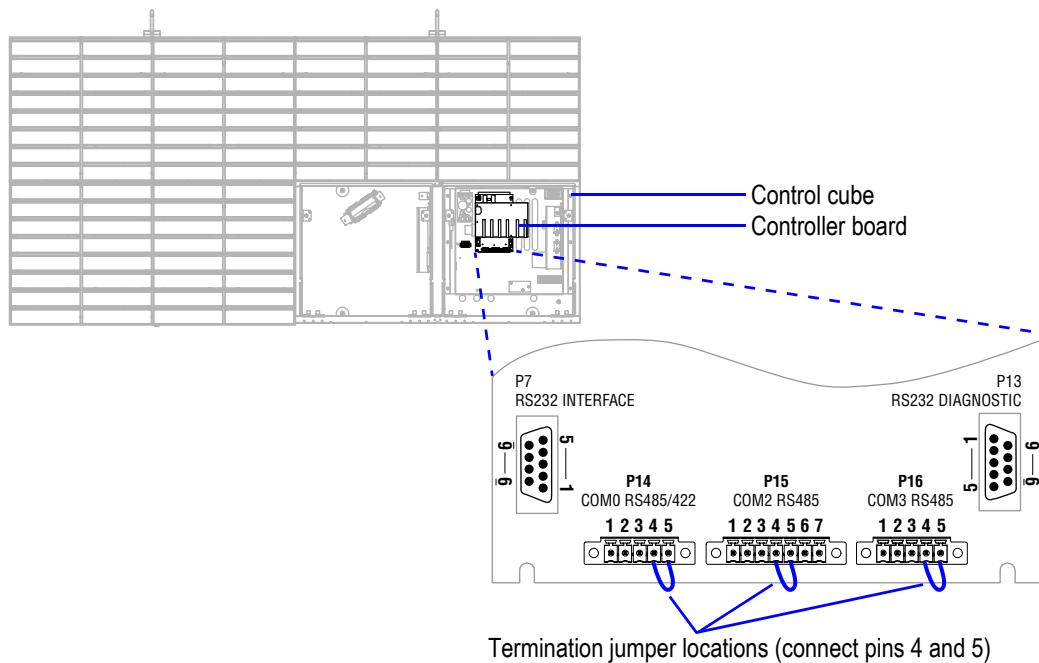
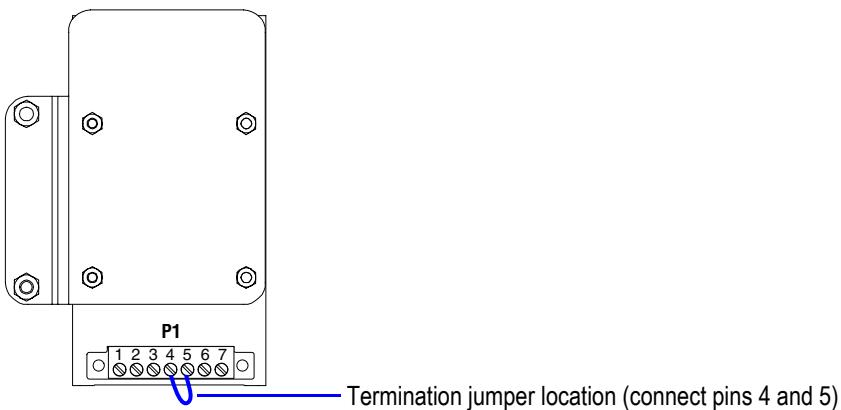

Figure 46. Termination jumper locations on controller board
Figure 47. Light sensor jumper locations
4. Remove the wire jumper from the appropriate connector. See Figure 46, "Termination jumper locations on controller board" and Figure 47, "Light sensor jumper locations," on page 48 for details.